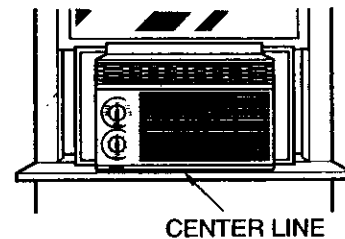

Figure 77
- When the air conditioner drops into the L bracket, the air conditioner will be centered in window opening as shown in Figure 77.